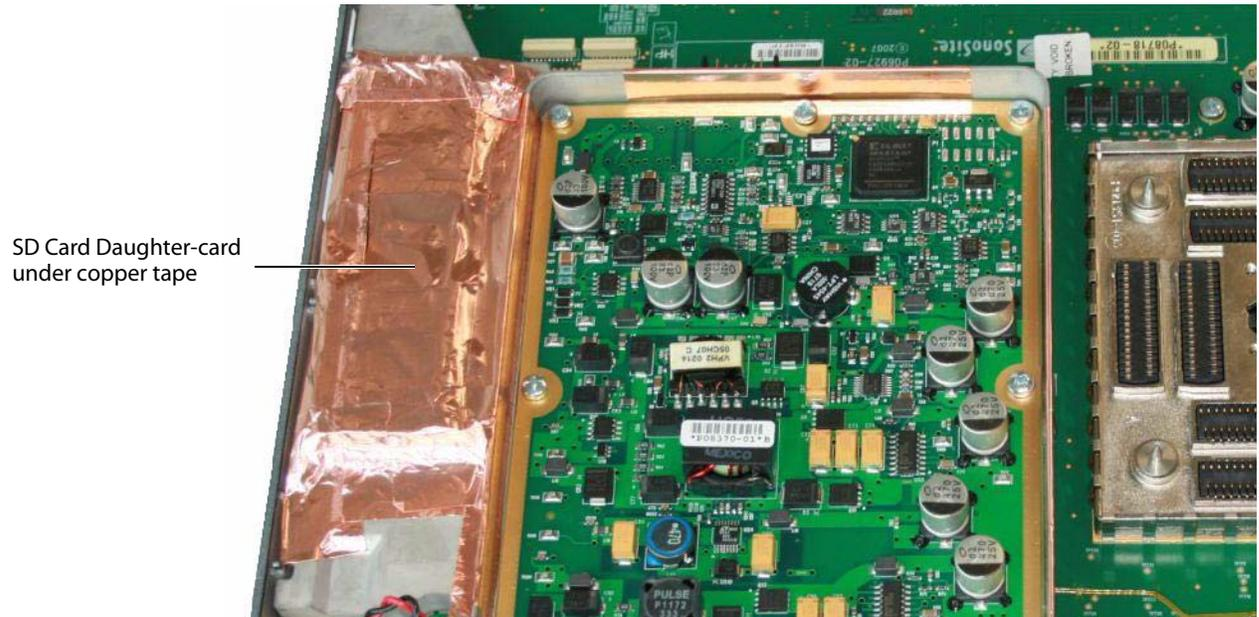

Figure 4.11 SD Card Daughter-card copper tape
- 1 Carefully remove the copper tape from the SD Card Daughter-card. See Figure 4.11.